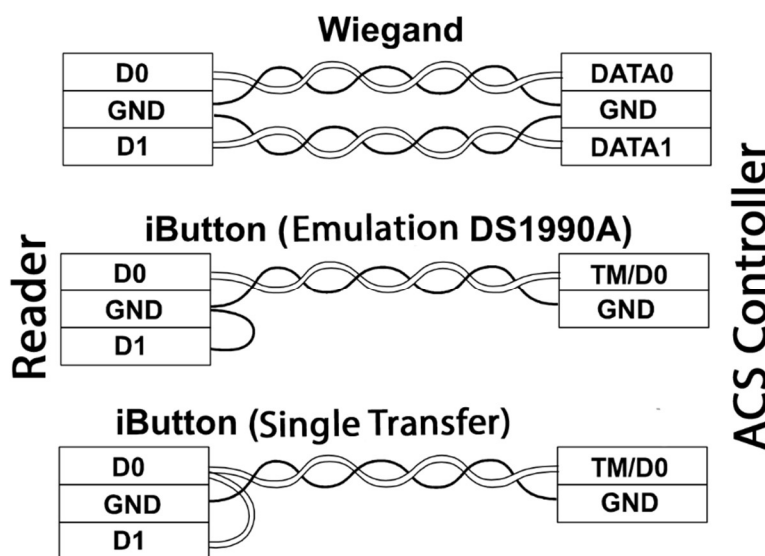

Fig 2. Connecting the reader to the Controller
- 2) Connect the reader wires in accordance with Table 1 and Fig. 2.
6) Connect the controller (see Fig.2).
- 6) Connect the controller (see Fig.2).
The interface for connecting the reader to the controller can be configured regardless of the mode (protected/unprotected). Initially, the Wiegand-26 data transfer protocol is active. The iButton (Dallas Toch Memory) protocol is selected by closing the DATA1 (white) wires to GND (black) (see Fig.2). The iButton (Dallas Toch Memory) is transmitted via DATA0 (green).